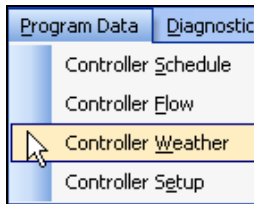

Figure 16.4.1A
1. In the toolbar at the top of the screen click on **Program Data** then scroll down to the words **Controller Weather** and click on it (Figure 16.4.1A).